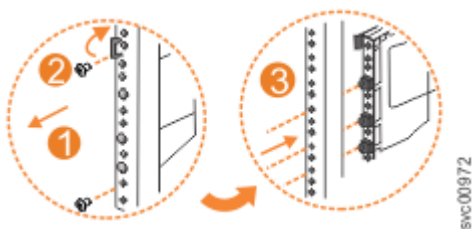

Figure 132. Remove the rail assembly from the front frame bracket
1. Remove the two screws that attach the outer rail section to the front bracket assembly, as shown in Figure 132 on page 113.
2. Remove the rail section by pulling it away from the front bracket, as shown in Figure 132 on page 113.